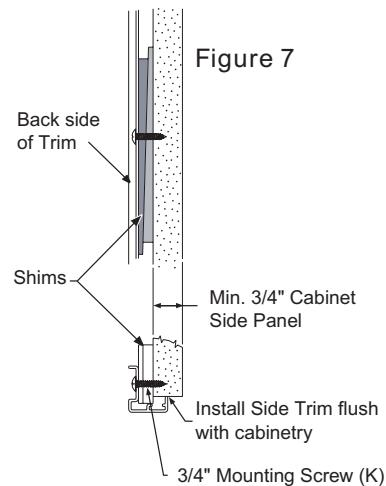
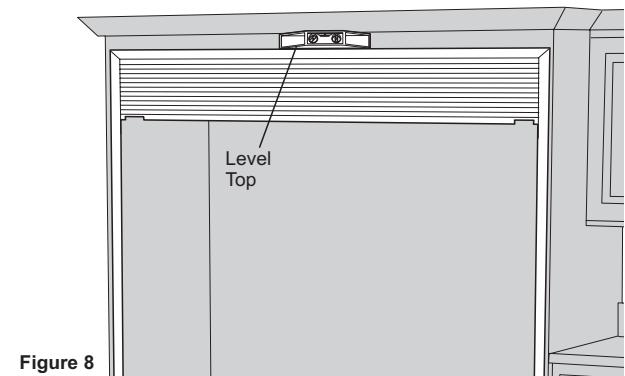

Figure 7
Figure 8
- Level the top of the trim frame using a carpenter's level. See Figure 8. Shim as necessary. (Shims not included.) See Figures 7 and 7A. Next, secure both ends of top trim (A) to cabinetry using two 3/4" mounting screws (K) through the holes at each end. Make sure all three screws are snug across the top.